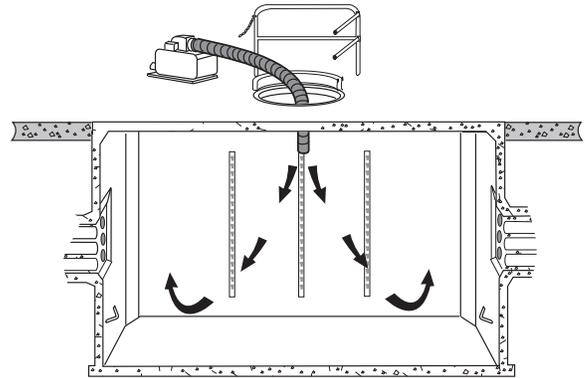

Figure 2 TPA-8021
**DO NOT BRING OPEN FLAMES, TORCHES, LIGHTED CIGARS, PIPES, CIGARETTES, OR MATCHES INTO A MANHOLE.** Failure to follow this warning may result in a fire or explosion. Observe all company rules concerning ventilation, purge time for manhole. As long as the manhole is open, continuous forced-draft ventilation at a **MINIMUM** rate of 500 cubic feet per minute should take place (Figure 2).